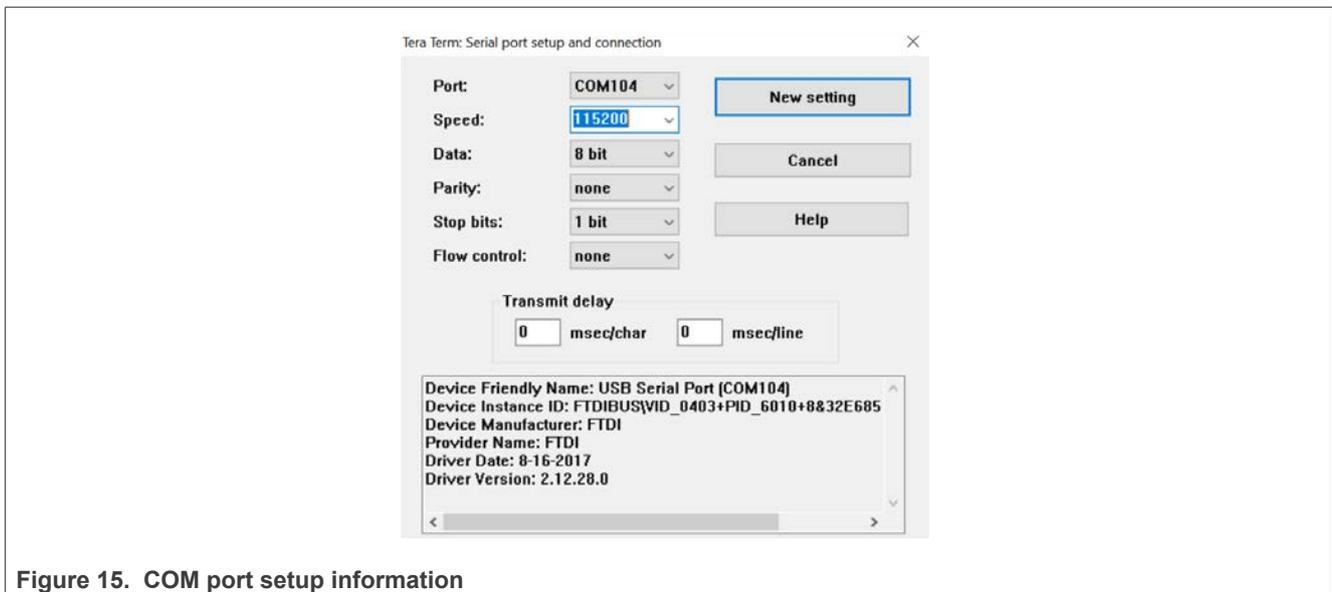

Figure 15. COM port setup information
**Step 6** – Look for the COM port setup information and configure the COM port to a baudrate of 115200. Figure 15 shows the Serial port setup and connection window of Tera Term.